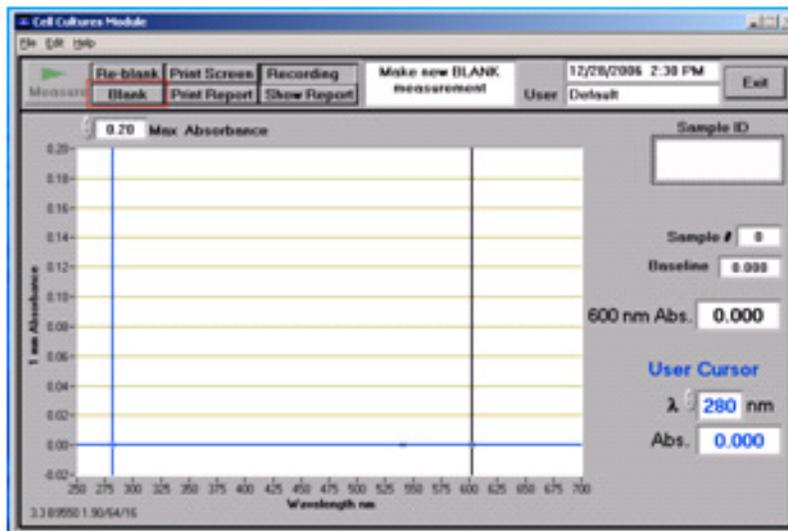

Figure 42 NanoDrop® ND-1000 Spectrophotometer software measurement dialog box.
8. Click **Blank**, then allow the instrument to take a measurement (see Figure 42 on page 101).